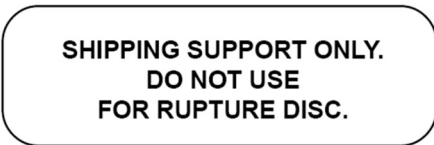

Figure 1 - Shipping Support Sticker
2. Remove and discard the shipping support (if provided). Shipping supports have ORANGE STICKERS on them, - they are NOT a part of the rupture disc (See Figure 1).